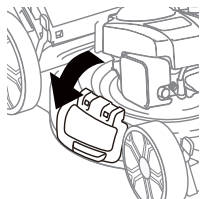

Fig. 11
2. Close the mulch door. The mower is now ready for mulching. (Fig.11)